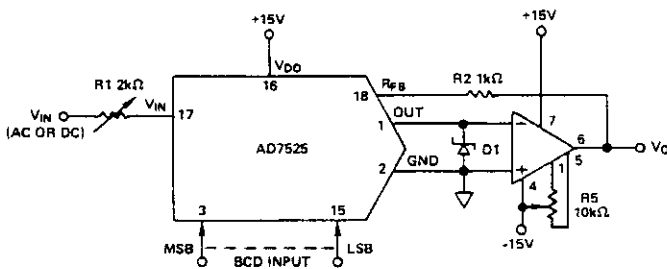

Figure 4. Digitally Controlled Attenuator Circuit
3. The inputs of some IC amplifiers (especially high speed types) present a low impedance to  $V-$  during power sequencing. To prevent the AD7525 OUT terminal (pin 1) from exceeding  $-300\text{mV}$  (which causes catastrophic substrate current), a Schottky diode, H5CH 1001 or equivalent, is recommended. While not required for most amplifier types, provision for the diode should be made during layout. The diode should be connected between OUT (pin 1) and GND (pin 2) as shown in Figure 4. Protection Schottkys not required when using TRI-FET output amplifiers such as the AD542 or AD544.